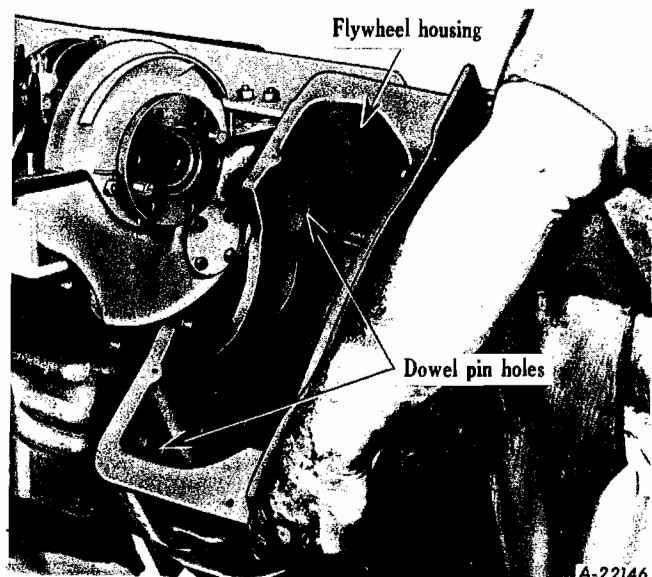

Fig. 22
7. Remove capscrews and lockwashers from engine flywheel housing. Drive out the two engine block dowels, remove flywheel housing (Fig. 22).